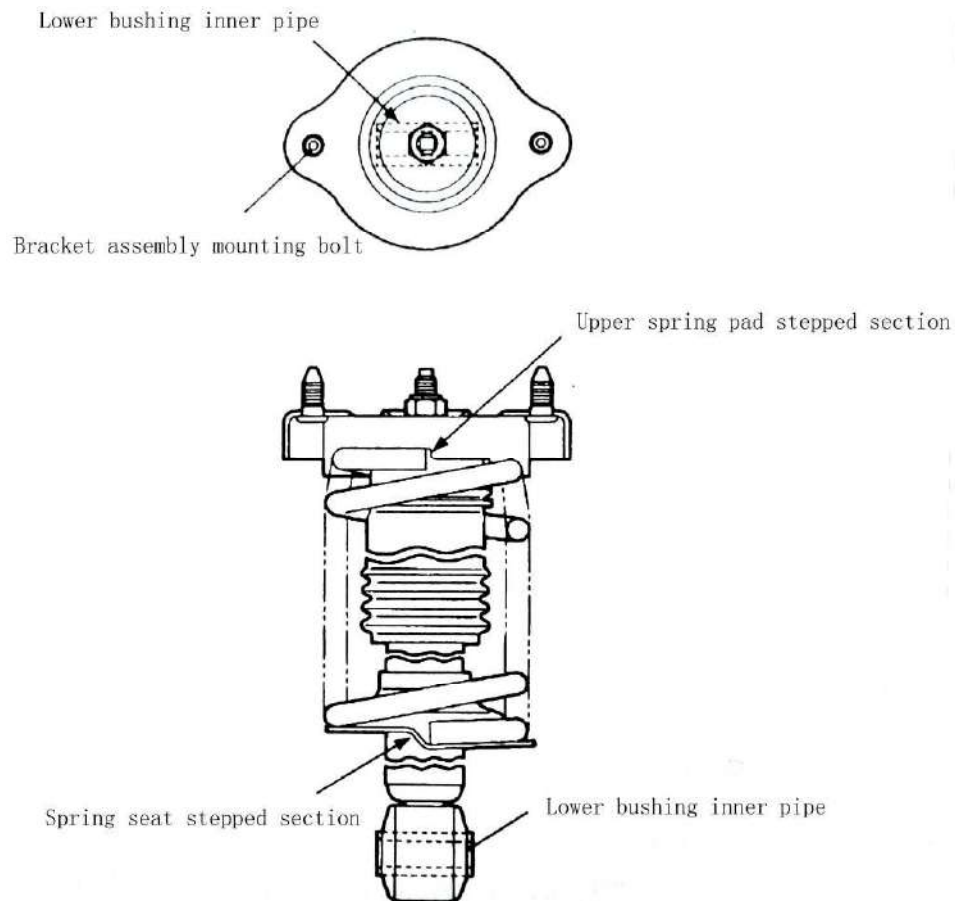

Fig.14B-26
2) REASSEMBLY SERVICE POINTS(Fig.14B-26)